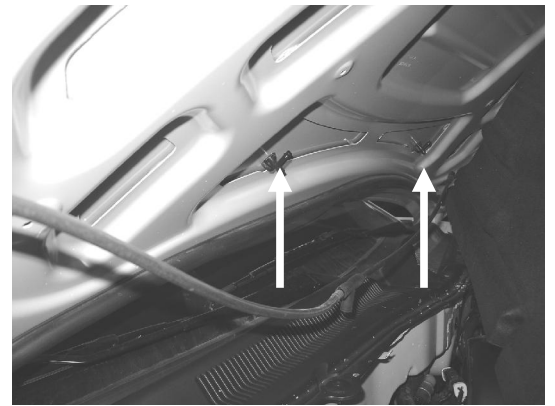

Figure 4
11. Install the two windshield washer nozzles (00-1106-C11405\*) as shown in Figures 4 and 5, with the threaded part protruding through the bottom and the nozzle openings on top of the hood.